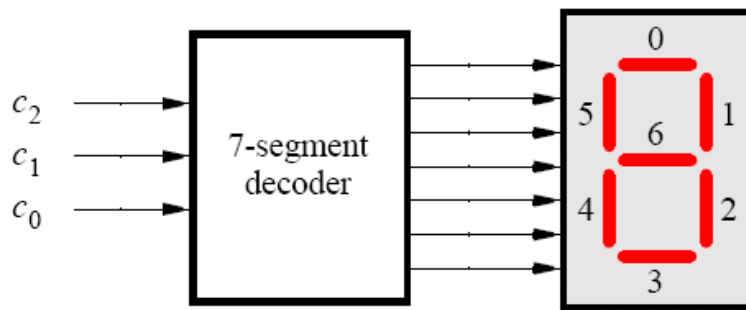

Figure 1 - A 7-segment decoder.
Figure 1 shows a 7-segment decoder module with the three input bits *c*₂ *c*₁ *c*₀. This decoder drives seven output signals that control a 7-segment display. Table 1 lists the characters that should be displayed for each value of *c*₂ *c*₁ *c*₀. In order to keep the design simple, only four characters are included in the table (plus the 'blank' character, which is selected by the four codes 100 – 111).
2. **Create a VHDL entity** for the 7-segment decoder. Connect the $c_2 c_1 c_0$ inputs to switches SW_2-0 , and connect the outputs of the decoder to the $HEX0$ display on the DE1 board. The segments in this display are called $HEX0_0$, $HEX0_1$, . . . , $HEX0_6$, corresponding to Figure 1. Remember to declare the 7-bit port